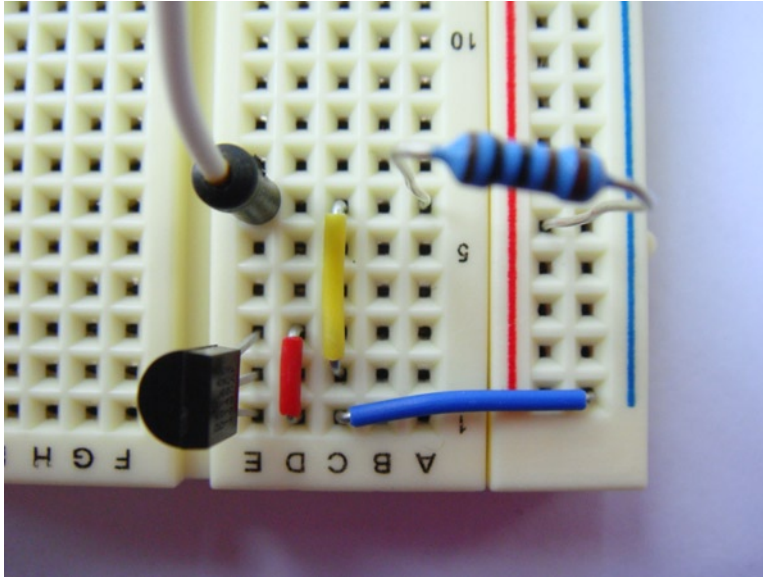

Figure 3-13. Resistor and GPIO connected to the new row
7. Remember the pull-up resistor? I hope you do! It is an important part of the 1-wire bus. You need to place this resistor in between the new row on your breadboard and your 3.3 V source. You then connect a hook-up wire from the opposite side of the row to P1-07 (GPIO-4) on your Raspberry Pi. Figure 3-13 will help you understand this.